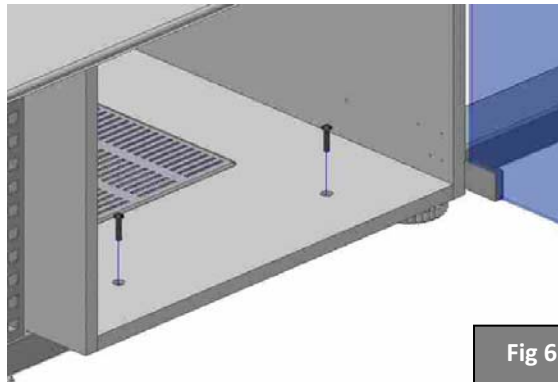

Fig 6
STEP 2 – Insert the **console compartment** in the **frame section** until the bottom recess fits in place (Fig. 6 and 7).